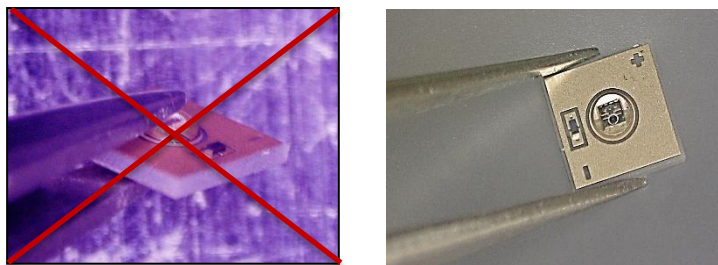

Figure 2. incorrect handling (left) and correct handling(right) of UV Package
- El Photon recommends holding the LED from the sidewalls (see Figure 2.)